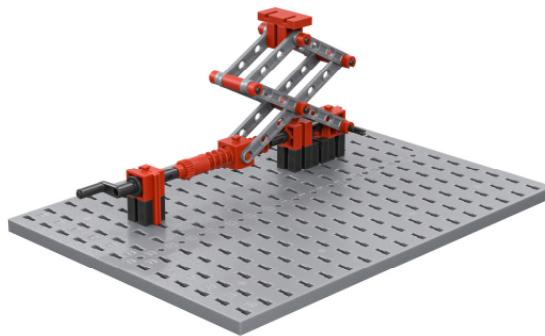

Fig. 3: Jack with scissor lift and worm gear
2. Fig. 3 shows a scissor jack that is lifted using a worm gear. The gear is self-locking, i.e., the jack remains stable in the position set with the worm gear.
3. Build the car jack according to Figure 3. You will notice that the car jack lifts surprisingly high. Think about how the lift could be increased further. Name several possibilities and compare them.